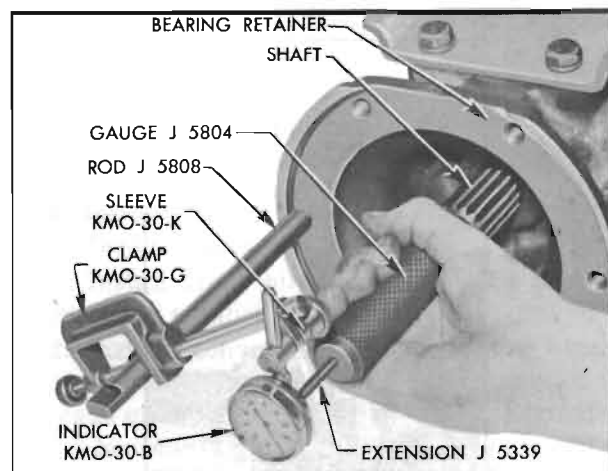

Figure 5-104—Checking Output Shaft End Play
8. Use Clamp KMO-30-G and Sleeve KMO-30-K to mount Dial Indicator KMO-30-B and Extension J 5339 so that the extension bears squarely against the end of Gauge J 5804. See Figure 5-104.